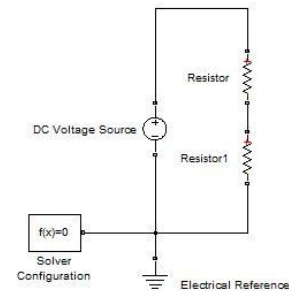

Figure 5: Voltage divider configuration
- **Drag a source from the library into your model to power the resistors.** Connect the components as shown in Figure 5. There are two kinds of electrical sources in the Simscape library. The first one is under Foundation Library →Electrical→Electrical Sources. The second one is under Foundation Library→SimElectronics→Sources. You can use either DC voltage source or Generic Battery. The only difference is that when you use Generic Battery, you can define the internal resistance and battery charging capacity in Generic Battery. You should use DC voltage source under Electrical Sources for simplicity. By double clicking, you can access a model's parameters and you can change the parameters according to your needs. Clicking
- **Make sure that the Solver Configuration and Electrical Reference are connected to your circuit as shown in Figure 5.** You have now built the Simscape portion of your model. To run the model, you will need to convert from Simscape to Simulink.